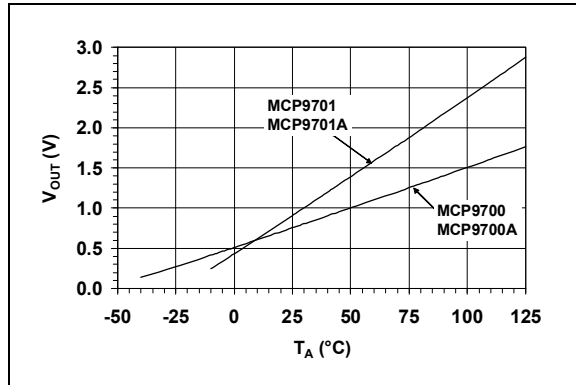

FIGURE 2-16: Output Voltage vs. Ambient Temperature.
- 2:** The MCP9700/9700A and MCP9701/9701A family is characterized using the first-order or linear equation, as shown in Equation 4-2. Also refer to Figure 2-16.
The Linear Active Thermistor™ IC uses an internal diode to measure temperature. The diode electrical characteristics have a temperature coefficient that provides a change in voltage based on the relative ambient temperature from -40°C to 150°C. The change in voltage is scaled to a temperature coefficient of 10.0 mV/°C (typical) for the MCP9700/9700A and 19.5 mV/°C (typical) for the MCP9701/9701A. The output voltage at 0°C is also scaled to 500 mV (typical) and 400 mV (typical) for the MCP9700/9700A and MCP9701/9701A, respectively. This linear scale is described in the first-order transfer function shown in Equation 4-1 and Figure 2-16.